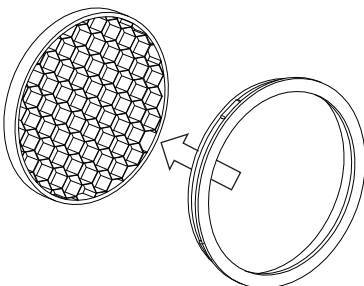

fig. 4
2. To install the honeycomb with the snoot or wall wash accessory, gently push the mesh ring out from the honeycomb plastic ring. (fig. 4)